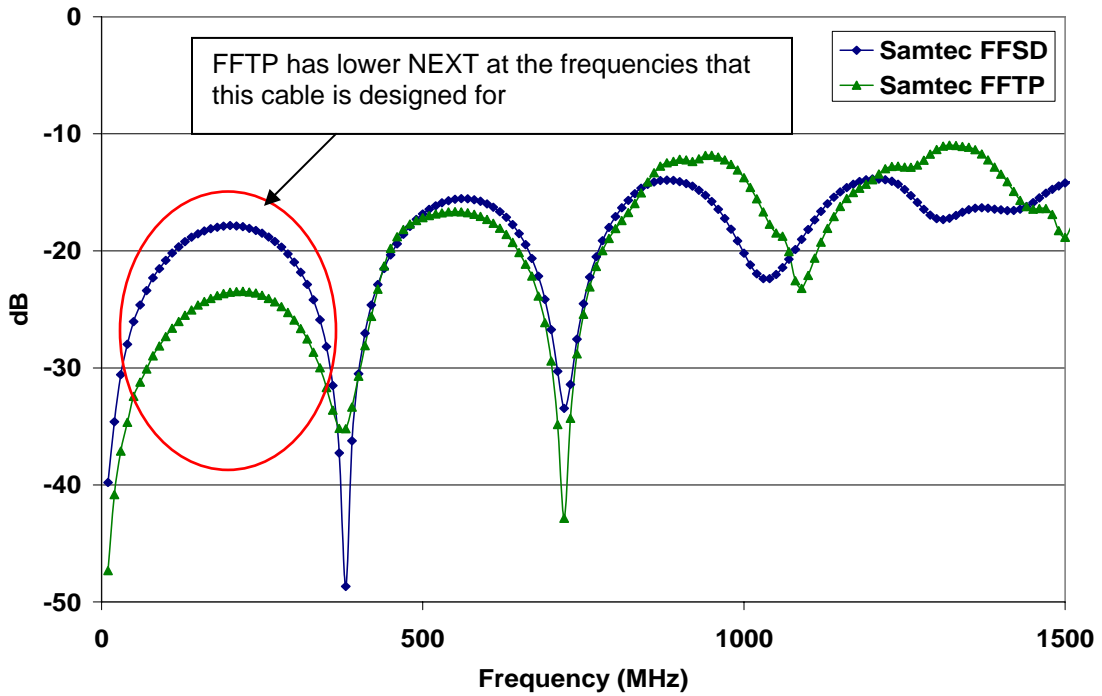

Figure 5: NearEnd Cross Talk (NEXT), all signal
**Results:** As evidenced in Figure 5, Samtec’s FFTP Series with twisted pair IDC cable has approximately -6dB better NEXT performance (up to 250 MHz) in an all signal, differential environment and -2dB better FEXT performance (up to 500MHz) when compared to Samtec’s standard FFSD Series with ribbonized IDC cable. Even with the introduction of grounds between pairs, Samtec’s FFTP Series twisted pair IDC cable assembly has lower NEXT and FEXT than the FFSD Series standard IDC cable assembly.